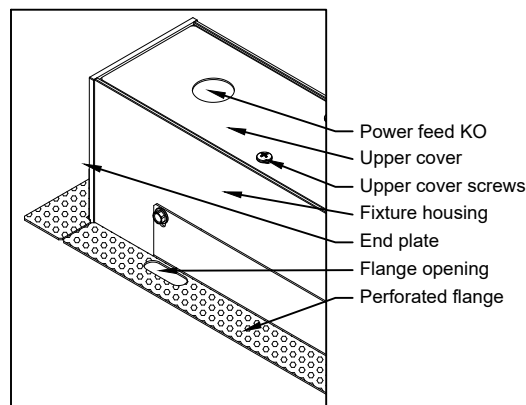

Fig. 2. Power feed location.
3. Locate fixture power feed 7/8" KO on upper cover at left side (Fig. 2). Remove and save upper cover screws.
- Spackle fixture flanges as shown on Fig. 1. Make sure to fill and smooth all perforated flange openings (Fig. 2).